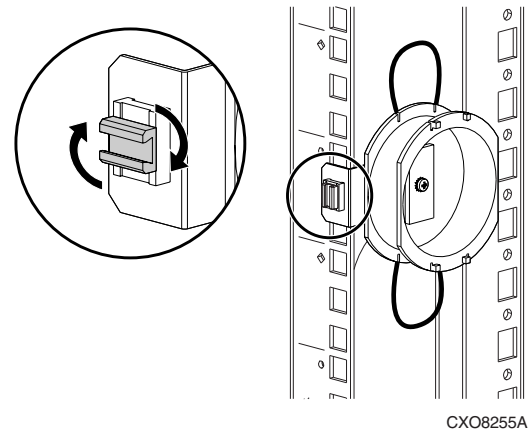

Figure 2: Securing the spool to the rail
3. Secure the cable management spool to the internal mounting rail by locking the twist lock into place with the flathead screwdriver, as shown in Figure 2.